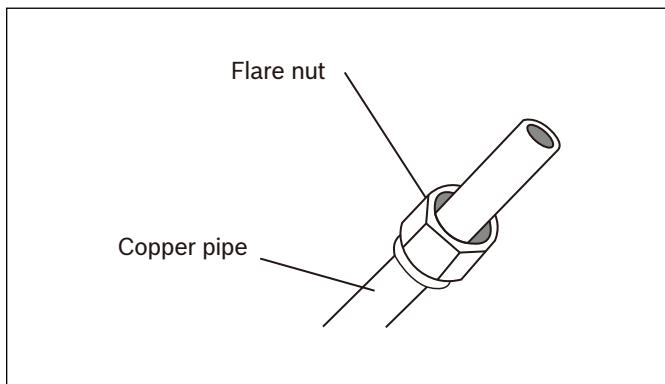

Figure 28
- Place flare nuts on both ends of pipe. Make sure they are facing in the proper direction, because you can't put them on or change their direction after flaring. See Figure 28.